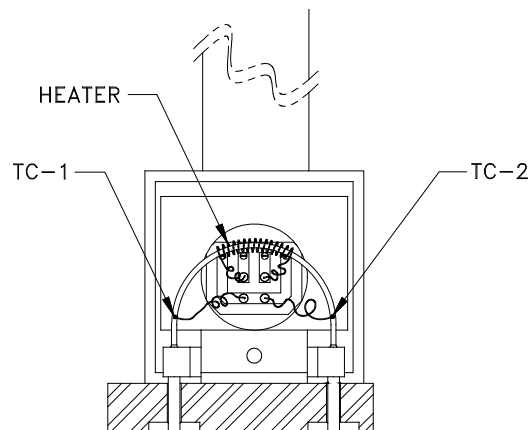

FIG 3.1
The Hastings HFM-201/HFC-203 series instruments operate on a unique thermal electric principle whereby a metallic capillary tube is heated uniformly by a resistance winding attached to the midpoint of the capillary (see Figure 3.1). Thermocouples TC-1 and TC-2 are welded at equal distances from the midpoint and develop equal outputs at zero flow.
**ACTION:** Unplug connector J2. Check the following resistance: The resistance between pins 2 & 3 of the sensor should be approximately 2500 ohms (see Figure 3.1 on page 8). The resistance between pins 1 & 4 should be approximately 2.3 ohms. The resistance between pins 2 & 3 and the base of the sensor should be essentially infinite. If not, replace the sensor unit. If sensor reads O.K., check the voltage output on pins 2 & 3 of the jack in the board. If it does not read approximately 22 VDC then replace op-amp U2 (U3 on 24 Volt board).